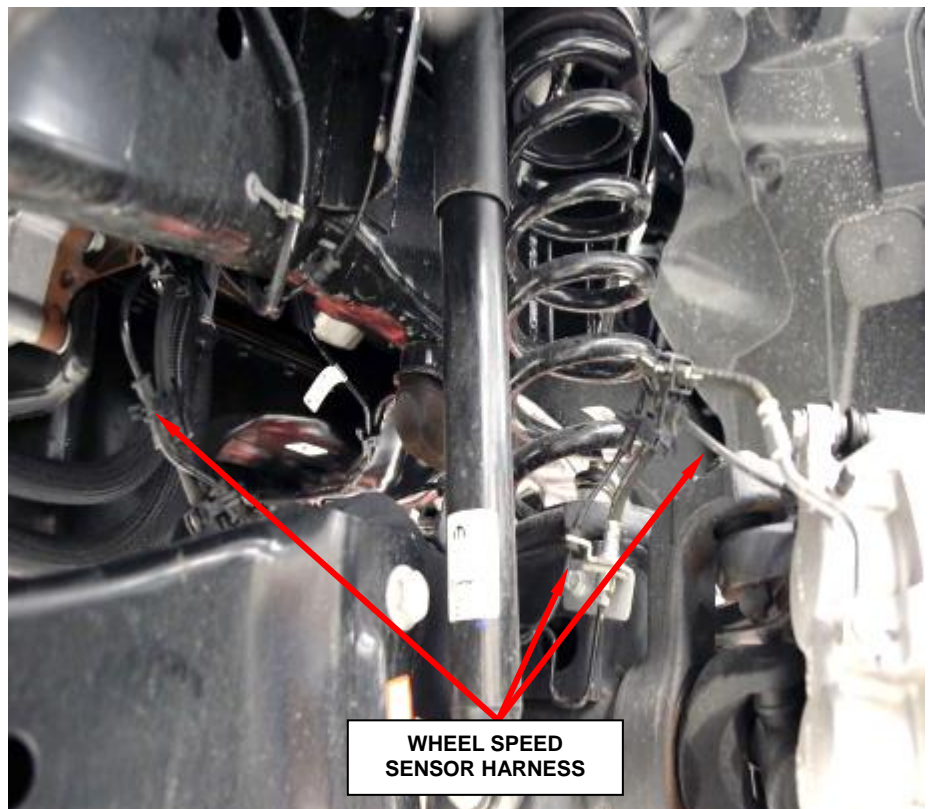

Figure 1 – Wheel Speed Sensor Harness (Right Side Shown)
5. Release the wheel speed sensor wire harness and engine compartment harness from the brake hose clips and brackets (Figure 1)